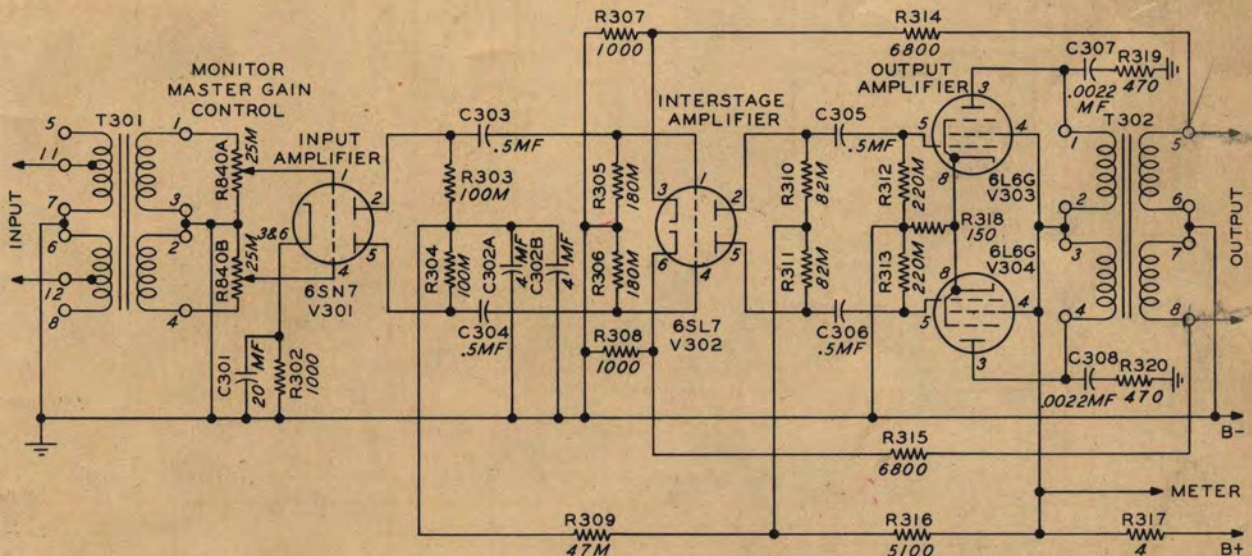

Figure 2-7 Monitor Amplifier Circuits
(9) MONITOR AMPLIFIER CIRCUITS. - The monitor circuit uses a line amplifier which will supply sufficient audio power to operate five speakers. Refer to figure 2-7. The type 6V-1 monitor amplifier is a three stage push pull amplifier. The input circuit is transformer coupled by T301 to a type 6SN7 tube V301 employed as a push pull voltage amplifier. An attenuator R840 located in the grid circuit of V301 serves as the monitor master gain control. Bias is obtained by means of the voltage drop across resistor, R302. The grid circuit of the interstage amplifier V302 is coupled by capacitors C303 and C304. The interstage amplifier V302 employs a dual triode type 6SL7 tube. Resistors R307 and R308 form the cathode circuit of V302. The plate of V302 is resistance coupled to the grid circuit of the output amplifier by capacitors C305 and C306 and resistors R310, R311, R312 and R313. The output amplifier employs two type 6L6G tubes V303 and V304. Resistors R314 and R315 serve as feedback resistors. Transformer T302 couples the output of the amplifier into a 600 ohm line.